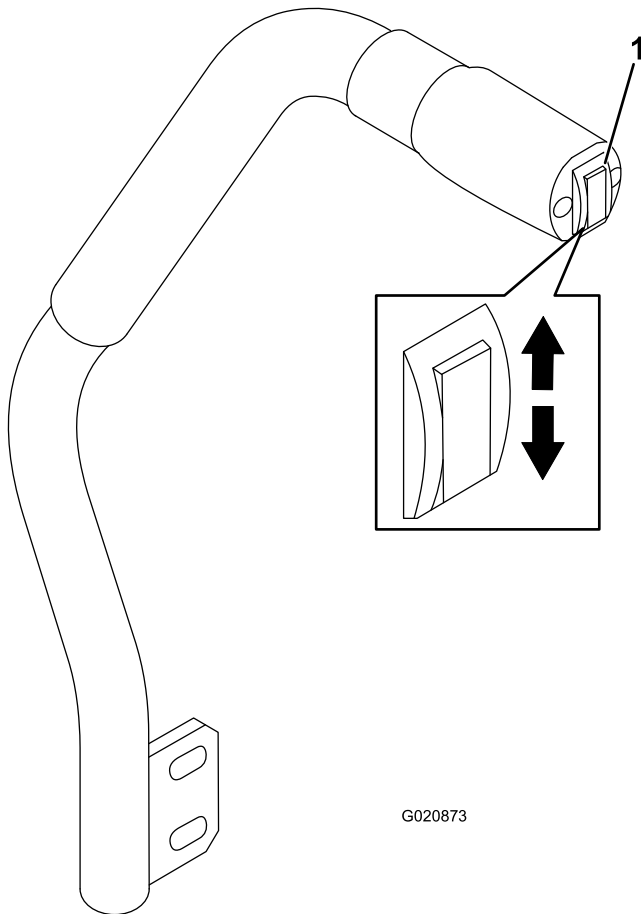

Figure 24
The deck-lift switch raises and lowers the mower deck (Figure 24). The engine must be running for you to use this lever.
- To lower the mower deck, push the deck-lift switch down (Figure 24).
- To raise the mower deck, push the deck-lift switch up (Figure 24).
- With the engine running, push the deck-lift switch up until the mower deck is fully raised and **release the switch immediately** (Figure 24).